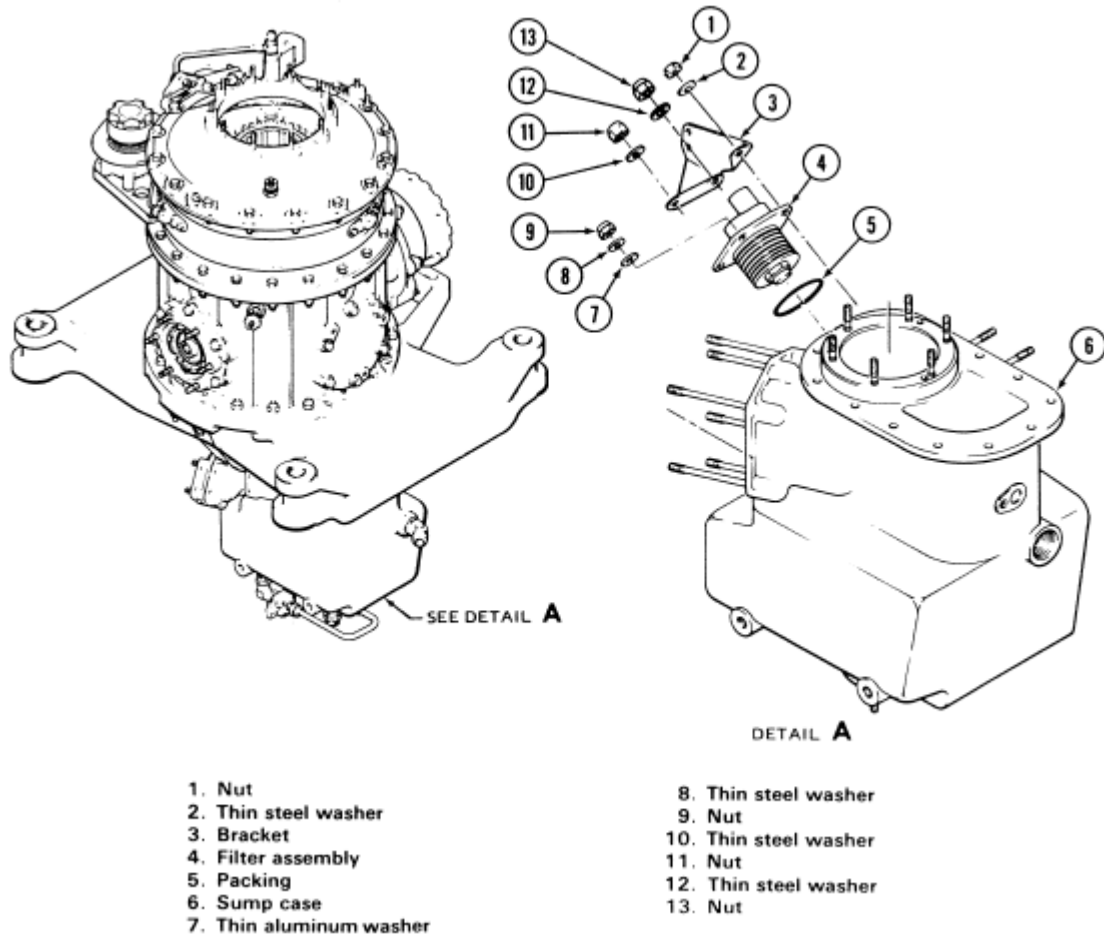

Figure 63-22. Sump Internal Filter (pre TB 212-91-131)
63.5.7.1.2 Remove nuts (1, 11, and 13, Figure 63-22) with washers (2, 10, and 12). Remove oil hose support bracket (3).
*Filters may be disassembled for cleaning if necessary, but should only be done if not possible to clean sufficiently while assembled. Refer to Figure 63-22 for procedures.*
63.5.7.2.2 Wash filter (4, Figure 63-22) with solvent (C-304).
63.5.7.4.1 Lubricate new packing (5, Figure 63-22). Install packing on filter (4).